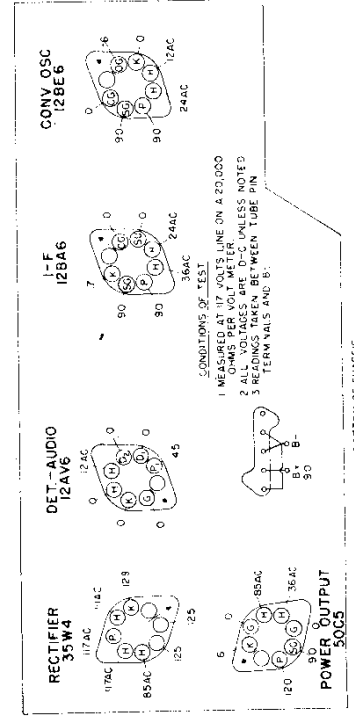

Fig. 4. Socket Voltages
- (3) Oscillator Grid Bias.
- (4) Socket Pin Voltages.
- Figure 4 shows voltages from all tube pins to B- unless otherwise specified. Voltage readings much higher or lower than those specified may help localize defective components or tubes.